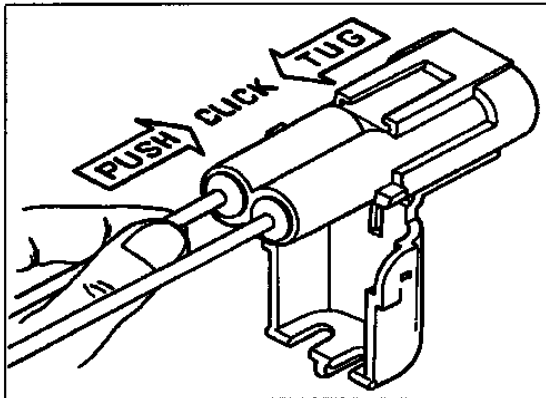

Figure 48 Insert New Terminals into Connector
6. Insert new terminals into connector until they click (Figure 48) and lock into place. Be sure to maintain indexing by placing the proper wires into the same cavities as the original connector.